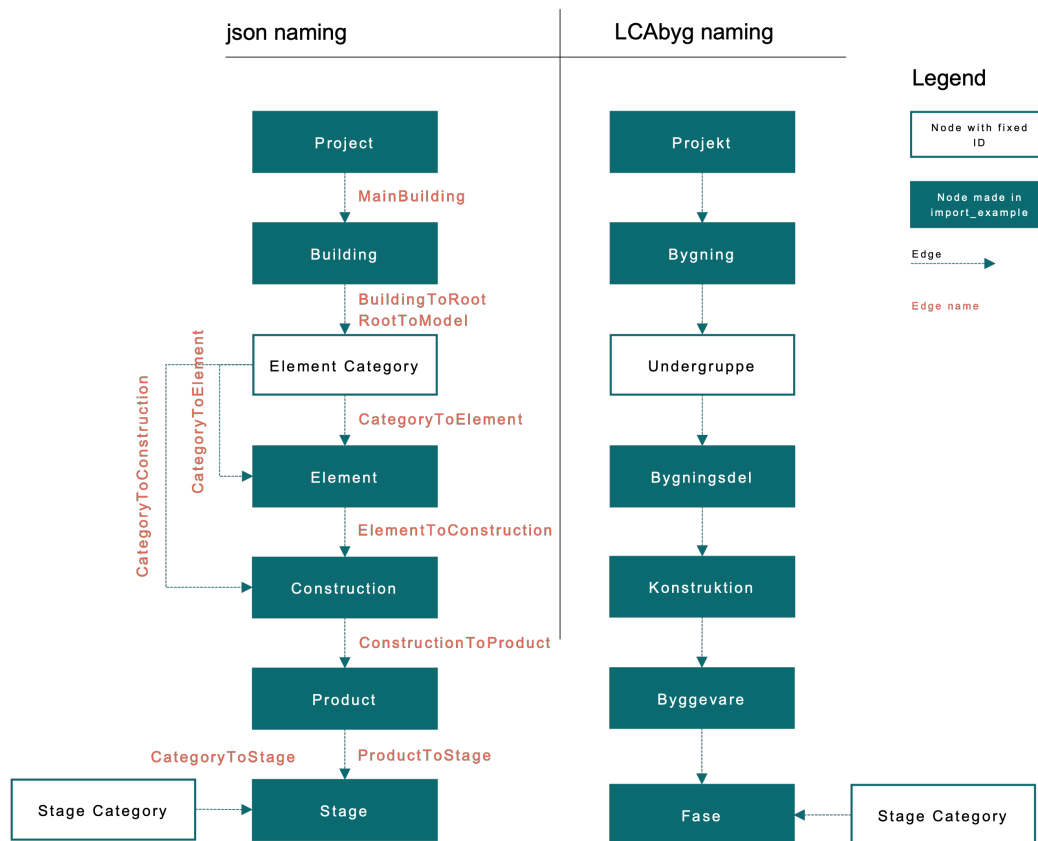

Figure 4.1: Edges required for the building model
The minimum requirement can be found in Figure 4.1. You can find the full overview of the all Nodes and Edges in Appendix A.
*Edge names can be found in Figure 4.1 or Appendix A